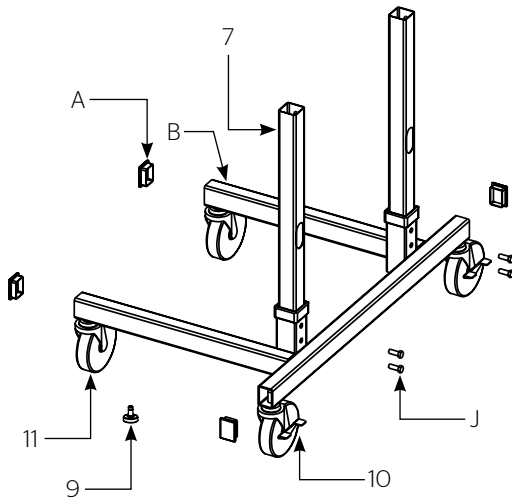

Figure 1
2. Insert the Caster stems or Glide stems into the Base. See Figure 1. Must go in straight.